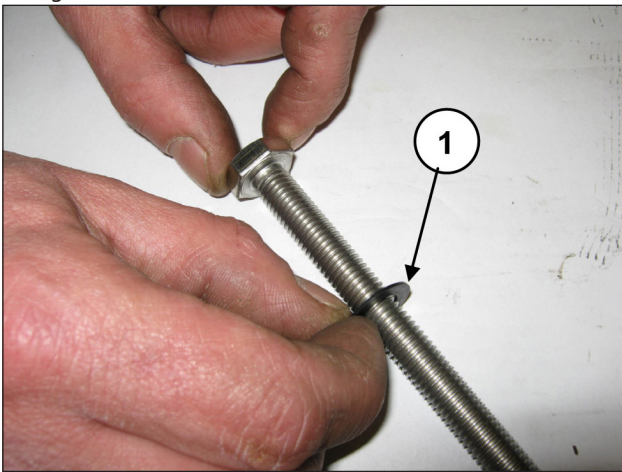

Fig. 187
Insert the Ø10x18x0.9 washer in the piston fixing screw (pos. ①, Fig. 187).